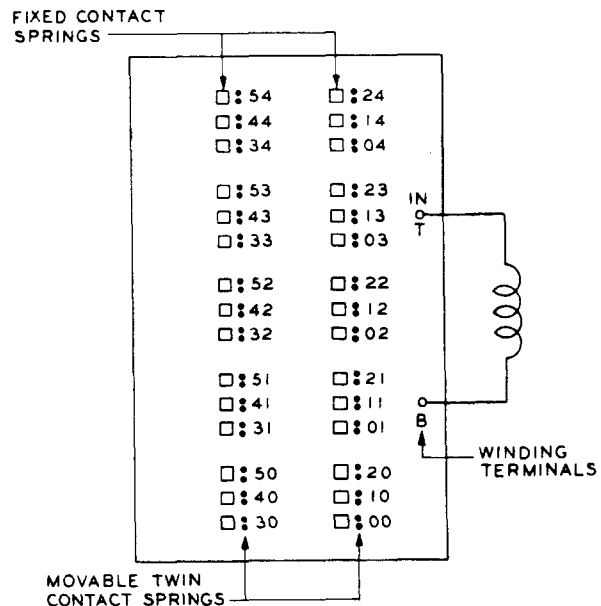

Fig. 58 — Winding and Contact Spring Arrangement as Viewed From the Front (contact side) — 286-Type Relay
(1) As viewed from the front of the relay, there are 30 make contact positions arranged in two vertical rows of 15 positions each. Each vertical row is divided into five groups of three positions each. Each position has a single fixed contact spring and associated movable twin contact springs. The movable twin contact springs are at the right of their associated fixed contact springs. The contact arrangement and the numbering of the contact springs are shown in Fig. 58.
(2) Referring to the figure, all contact positions are designated by 2-digit numbers. The five groups of three contact positions in both vertical rows are numbered from 0 to 4 starting at the bottom. These numbers appear as the second digit in the designations of each of the three contact positions in the respective groups. In the right vertical row, the three contact positions in each of the five groups are numbered 0, 1, and 2 starting at the lowest position in the group. This num-